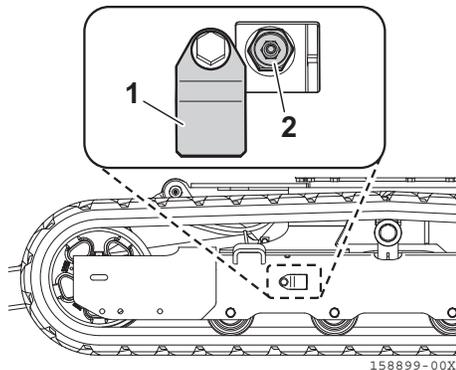

Fig. 8-12
1. Remove the cover (Fig. 8-12, 1).
2. Raise the machine with the implement and the safety blocks. Slowly loosen the nipple valve (Fig. 8-12, 2) and discharge the grease to adjust the rubber crawler tension and to achieve the proper clearance [0.3 to 0.5 in. (8 to 13 mm)].
3. Tighten the nipple valve (Fig. 8-12, 2).
7. Install the cover (Fig. 8-12, 1).